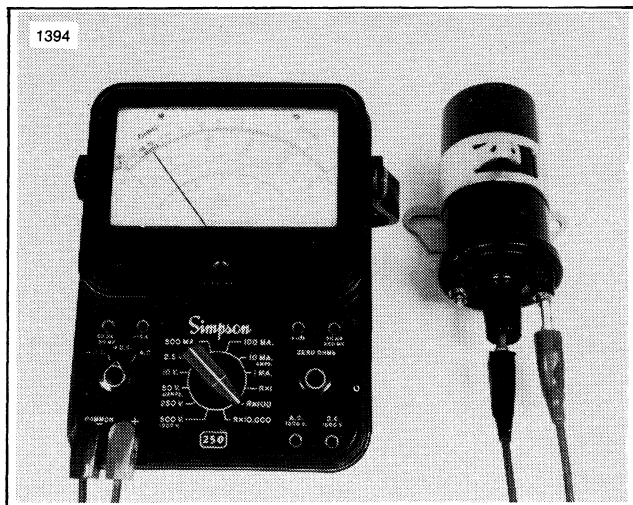

Figure 8-23. Checking Secondary Winding Resistance
4. See Figure 8-23. Check secondary winding resistance. Set ohmmeter to RX100. Reading should be 6000 to 9000 ohms.